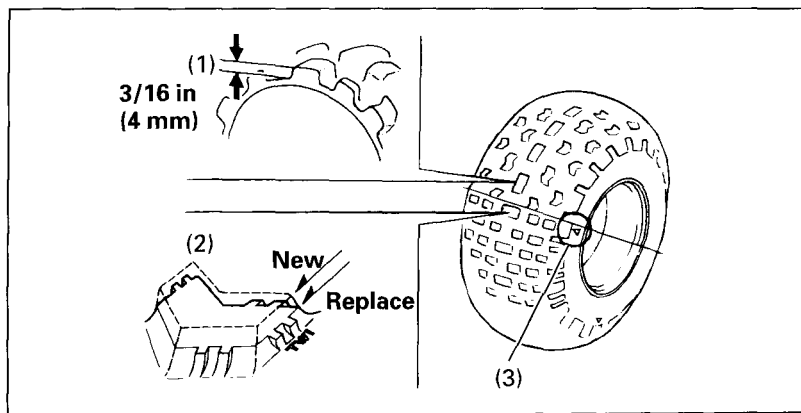

Fig. 4-36
To check the condition of a tire tread, measure the groove depth (1) (Fig. 4-36) in the center of the tire, or check the wear indicator (2). The minimum tread depth is 3/16 in (4 mm). When the tread depth is less than recommended, the tire should be replaced.